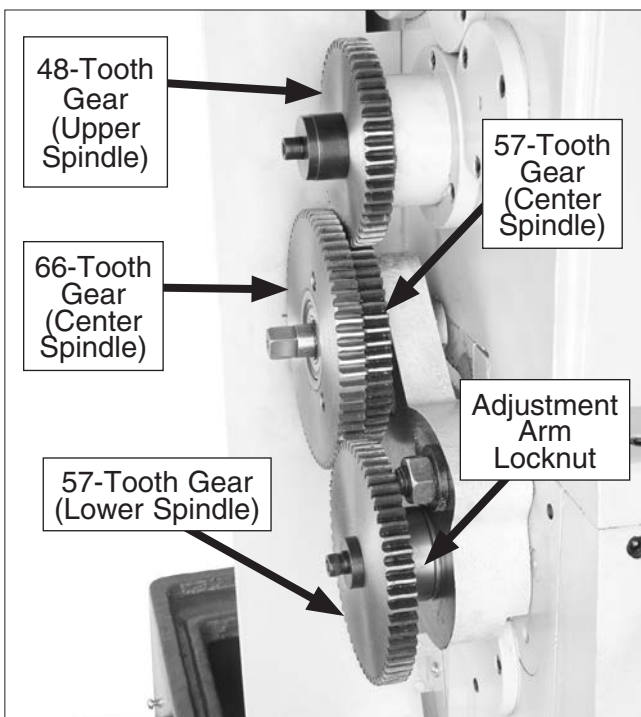

Figure 63. Change gear setup for dimetrial and modular thread cutting.
Note: When finished, and installed back on the lathe, the spindle must hold the 66-tooth gear outward as shown in (**Figure 63**).
2. Open the side cover and familiarize yourself with the orientation of the change gears (**Figure 63**).
3. Put on your safety glasses, and using a 14mm wrench, remove the center spindle and gear assembly (**Figure 63**).
9. Use the 6mm hex wrench and remove the lower spindle cap screw, shoulder washer, and the 42-tooth gear (**Figure 63**).
- Using the 6mm hex wrench, remove the upper spindle cap screw, spacer washer, the 48-tooth gear, and the spacer (**Figure 63**).